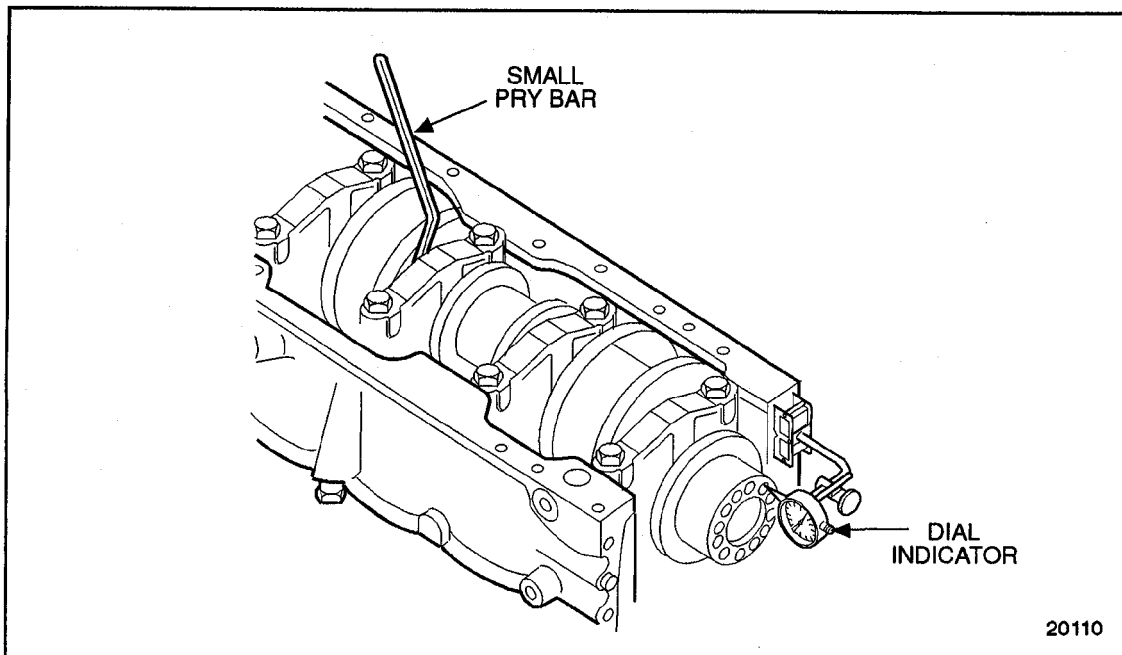

Figure 1-123 Measuring Crankshaft End Play
9. Check the crankshaft end by moving the crankshaft toward the gage with a small 304.8 mm (less than 12 in.) pry bar. See Figure 1-123. Keep a constant pressure on the pry bar and zero the pointer on the dial indicator. Then, remove and insert the pry bar on the other side of the bearing cap. Force the crankshaft in the opposite direction and note the amount of end play on the dial. The end play should be 0.099-0.419 mm (0.0039 -0.0165 in.). Insufficient end play can be the result of a misaligned No. 6 main bearing, a misaligned upper thrust washer or a burr or dirt on the inner face of one or more of the thrust washers.